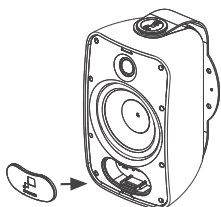

FIGURE 10:
- Fit the wiring connector cover into the recess in the speaker's front panel. The cover should fit tightly, but can be removed and replaced if the speaker needs to be disconnected (see figure 10).